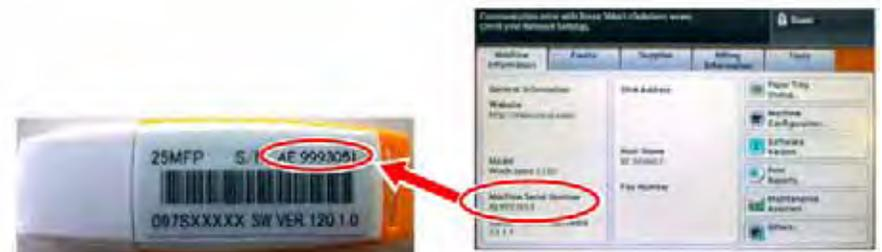

Figure 13 Serial Number information
2. Select the **Machine Status** button on the Control Panel and locate the Machine Serial Number on the lower, left part of the screen. Record this number on the dongle label (Figure 13). The space is limited so make certain to record at least the last five digits of the Serial Number.